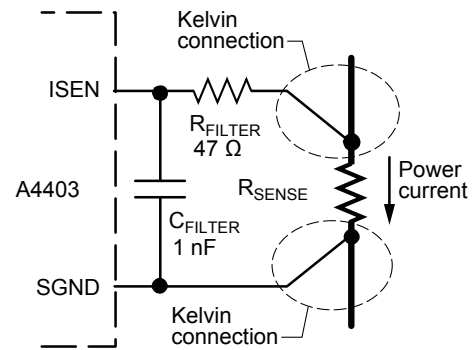

Figure 3. R-C filter added to the current sense circuit
**Sense Resistor** The sense resistor should be a surface mount package, with low inductance. On no account should a wire-wound or through hole package be used. To prevent potential mistrigging problems from occurring in noisy systems, it is recommended that an R-C filter be applied across the sense resistor, as shown in figure 3.
When laying out the PCB, it is essential that the sense resistor connections, carrying the power current (see figure 3), are as short and wide as possible to minimize the effects of leakage inductance noise. In addition, the Kelvin sense circuit connections should be as close to the sense resistor pads as possible.
The sense resistor connections should be connected in a Kelvin circuit (see figure 3) to the corresponding pins on the A4403